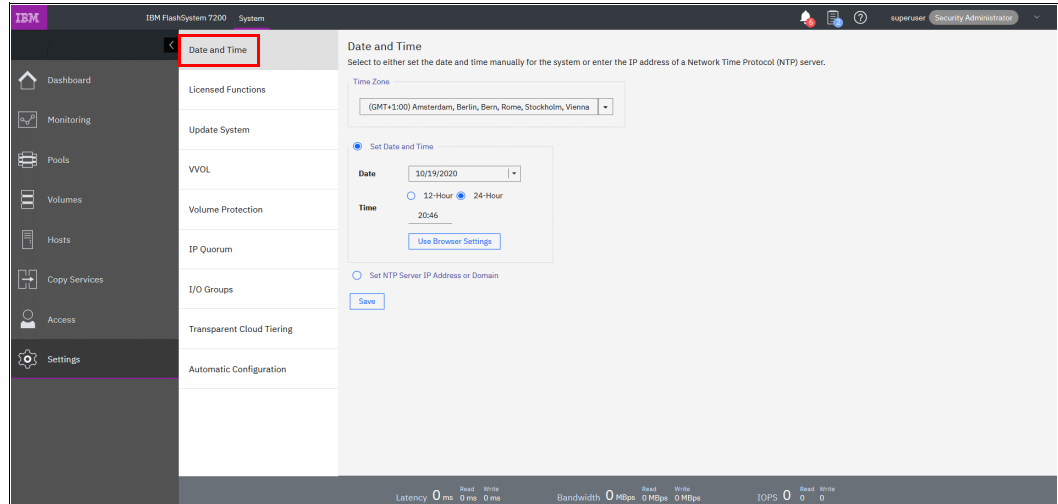

Figure 4-87 Date and Time window
2. In the left column, select **Date and Time**, as shown in Figure 4-87 on page 213.